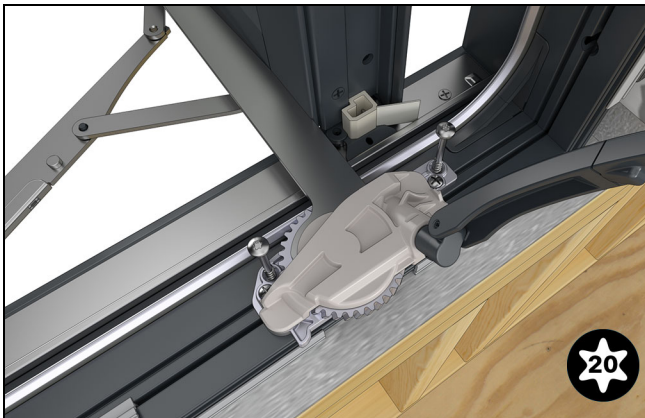

Figure 33
1. Crank open the sash and drive a screw into the hole in the base that is hidden under the crank arm. See Figure 33.